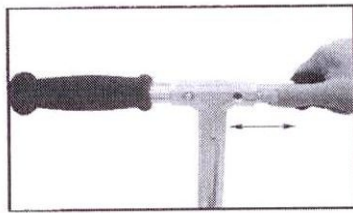
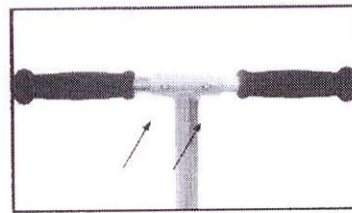

Figure 1
Figure 2
- A. Insert and secure the left and right handlebars by pressing the spring-loaded buttons and inserting them into the T-tube (Figure 1). Make certain the spring-loaded button engages the hole in the T-bar for each handlebar (Figure 2).
Failure to properly engage the spring-loaded buttons may cause the handlebars to dislodge while riding and may cause you to lose control and fall. When correctly engaged the handlebars will not rotate nor will they move sideways. Note that when properly engaged, the spring-loaded buttons are clearly visible in the holes on the T-tube (Figure 2).